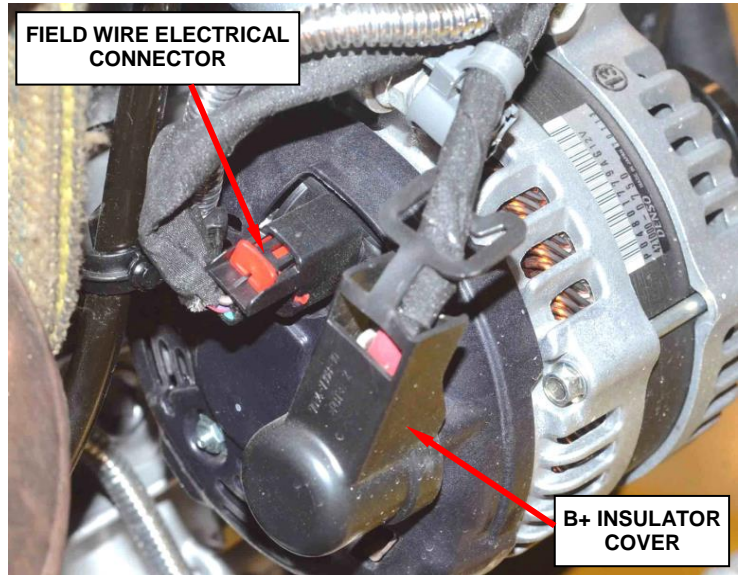

Figure 6 - Alternator Electrical Connections
3. Unplug the field wire electrical connector from alternator (Figure 6).
4. Remove and save the insulator cover from the B+ output terminal at the rear of the alternator (Figure 6).
18. Install the B+ terminal to the alternator stud. Tighten the retaining nut to 115 in. lbs. (13 N·m) (Figure 6).
19. Install the insulator cover over the alternator B+ terminal (Figure 6).
20. Plug in the field wire electrical connector to the alternator (Figure 6).